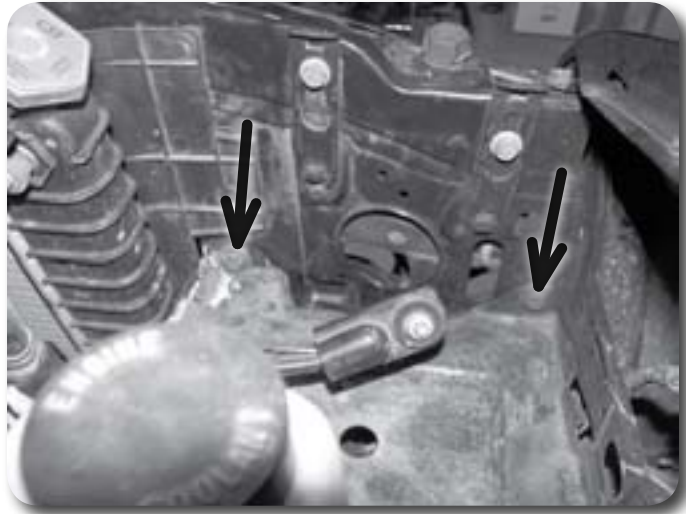

Figure 14
17. 4wd only: Remove the two bolts mounting the battery tray to the core support and remove the battery tray from the vehicle **Figure 14**. Save hardware.